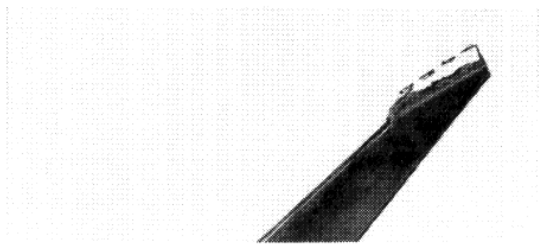
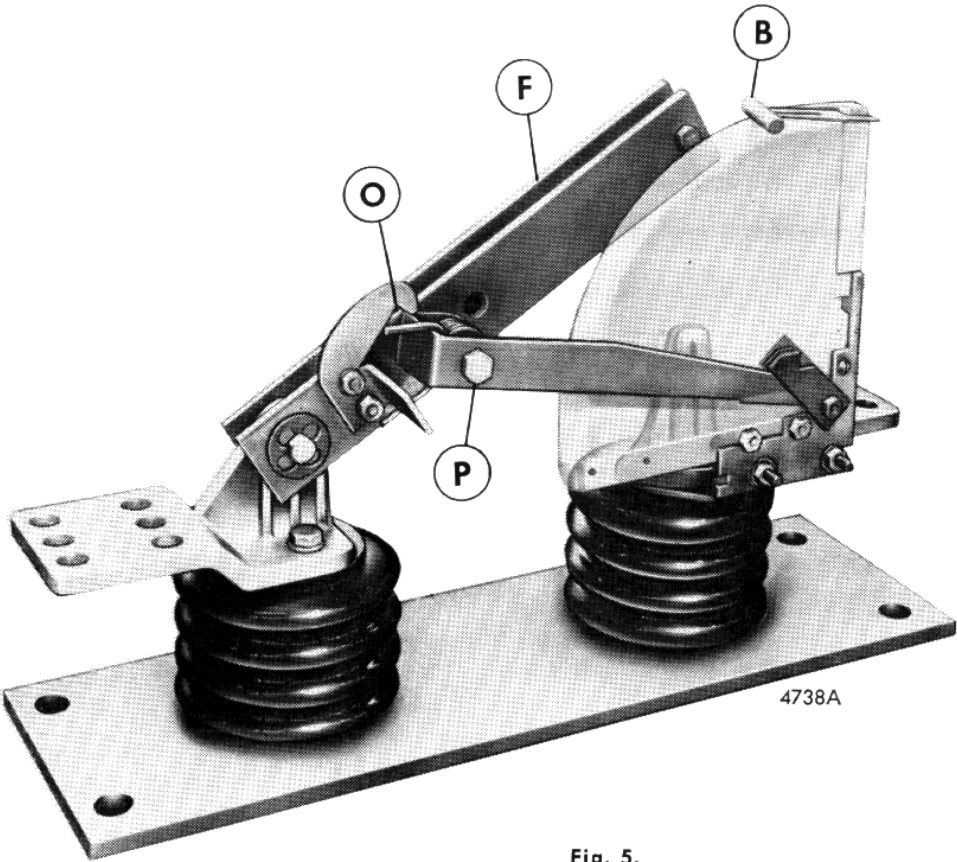
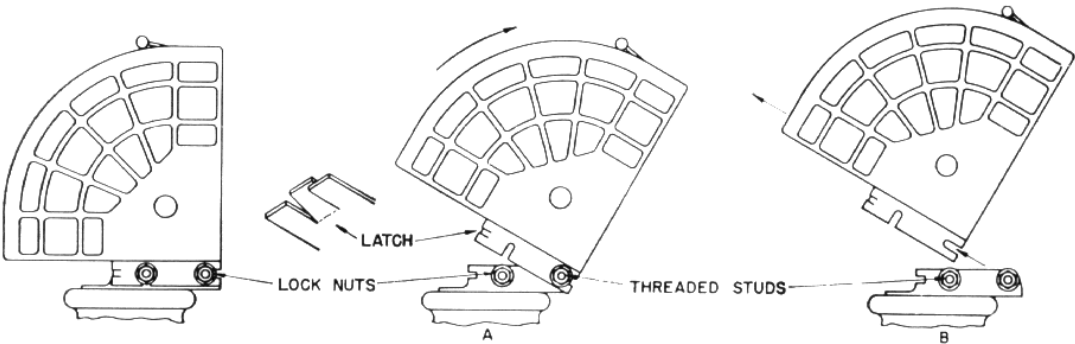
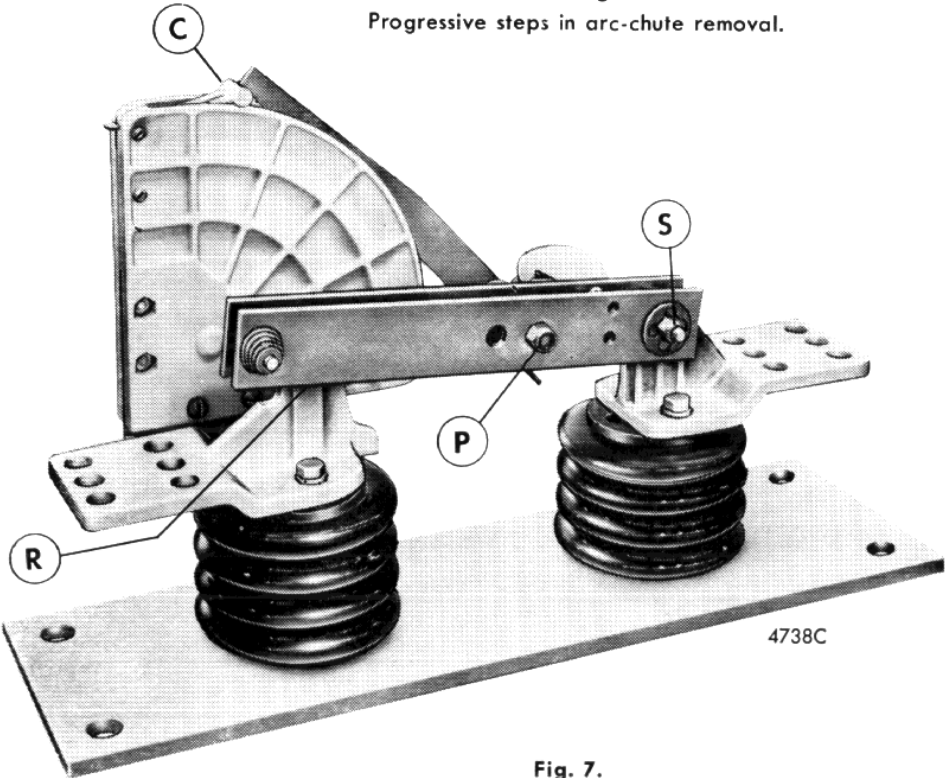

Fig. 4. End of auxiliary quick-break blade showing erosion at arcing tip.
Fig. 5. Main blade opening, auxiliary blade about to be released.
Fig. 6. Progressive steps in arc-chute removal.
Fig. 7. Main blade closing, auxiliary blade restrained and about to be released for closing.
If the moving arcing electrode (on the tip of the auxiliary, quick-break blade) shows bad erosion, Fig. 4 (approximately one-third burned away), the arc chute and quick-break blade should be replaced. To replace arc chute, loosen locknuts holding arc chute to support, (Fig. 6), pull arc chute away from switch base, rotating toward hinge, and remove. Discard and replace with new unit. To replace quick-break blade, remove bolt P (Fig. 5) and lift off used blade.
Operate switch to check on opening. Quick-break blade should not release until its hinge end contacts latch hook O (Fig. 5). On closing, quick-break blade should not leave flipper C (Fig. 7) until jaw and blade have made contact R.
Should it ever be necessary to adjust the hinge contact pressure—(1) Loosen pressure adjusting nut S (Fig. 7) until there is negligible contact pressure (no clearance), (2) Tighten nut one-half turn. Hinge friction should be sufficient to hold a 4.8-kv blade (9-inch insulator centers) in any position and to just allow a 13.8-kv blade (12-inch insulator centers) to fall. No adjustment is required on jaw contact.